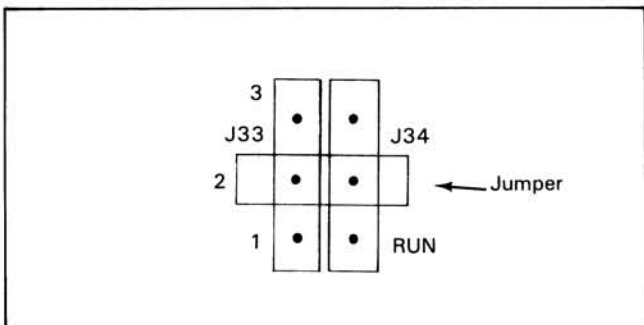

Figure 8-B-2. Jumper A30J33/34 in the 2 Position.
- 1. Move A30J33/J34 to the 2'' (middle) position, as shown in Figure 8-B-2.